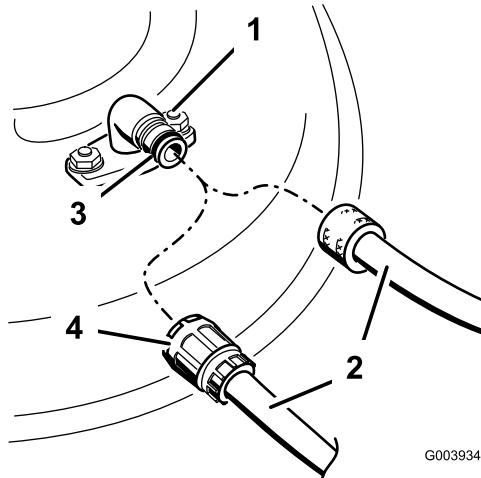

Figure 54
3. Attach the hose coupling to the end of the mower washout fitting, and turn the water on high (Figure 54).